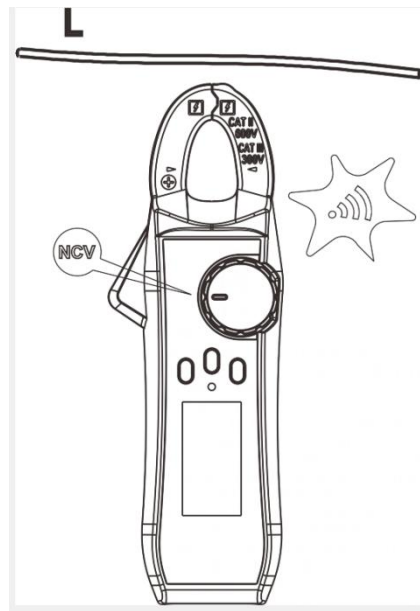

Figure 6
3. Non-Contact Electric Field Measurement and Setting (Figure 6)